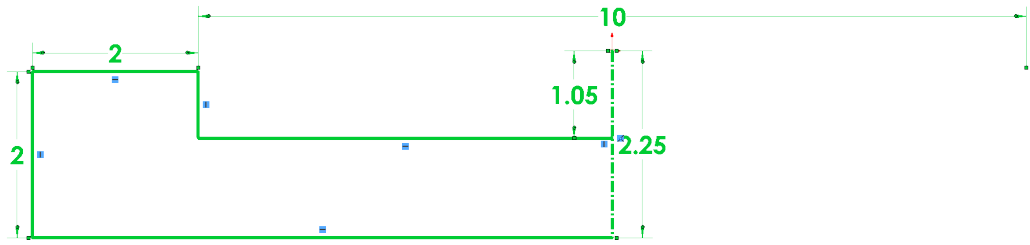

Fig. 5
Step 1. Drag selection around the sketch to select all entities, Fig. 5.